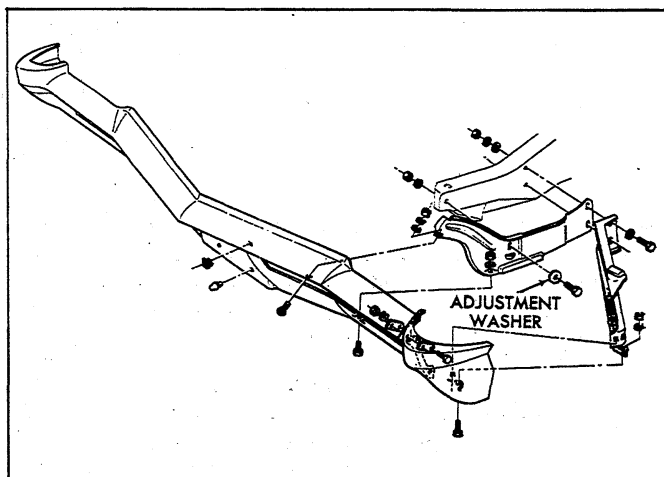

Fig. 1 - Front Bumper Assembly - Chevrolet
FRONT BUMPER ASSEMBLY (Fig. 1)
2. Install bolts, lock washers, and nuts; do not tighten. Note that eight sided adjustment washers (fig. 1) are